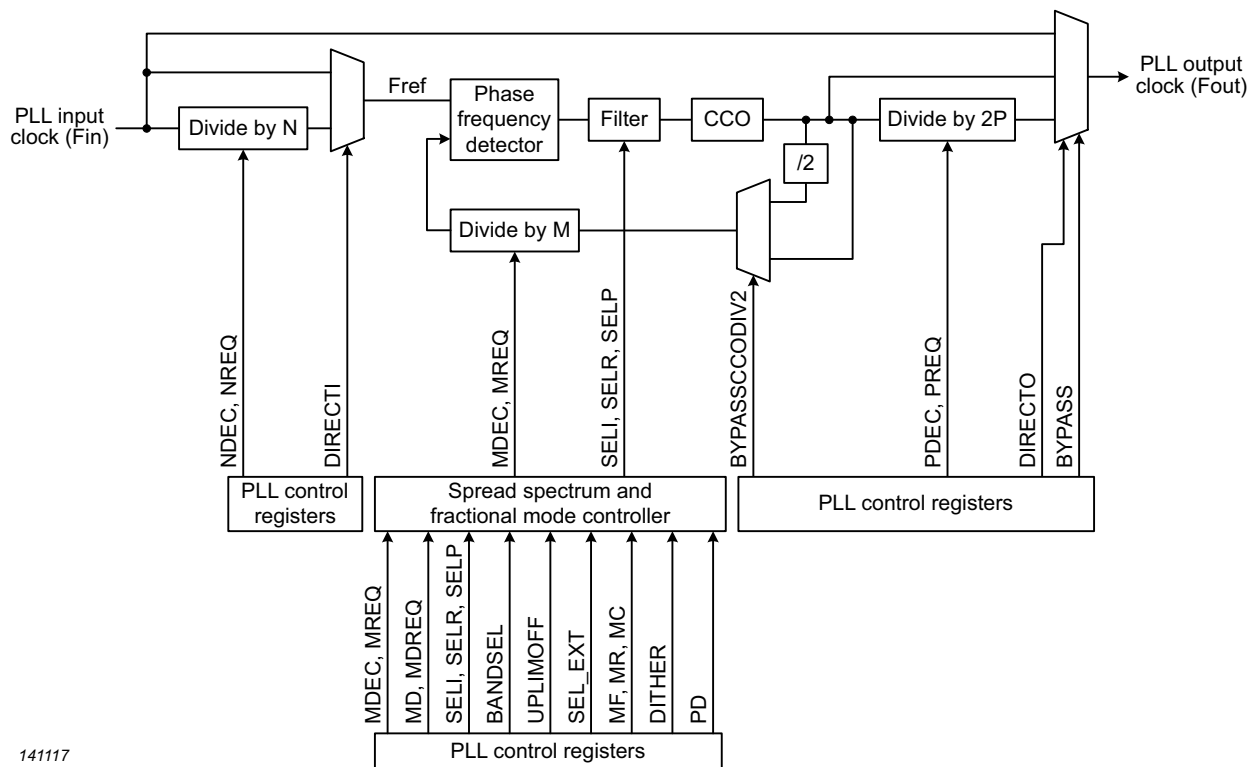

Fig 7. PLL block diagram showing spread spectrum and fractional divide operation
- Input frequency: in normal mode, can include the 32 kHz RTC clock and 12 MHz FRO, or up to 25 MHz from the CLKIN pin. In fractional mode, Fref (see Figure 7) between 2 and 4 MHz.
The overall effect of the PLL otherwise the same as normal modes. A block diagram of the PLL as used in fractional mode is shown in Figure 7.
A block diagram of the PLL as used in fractional mode is shown in Figure 7.